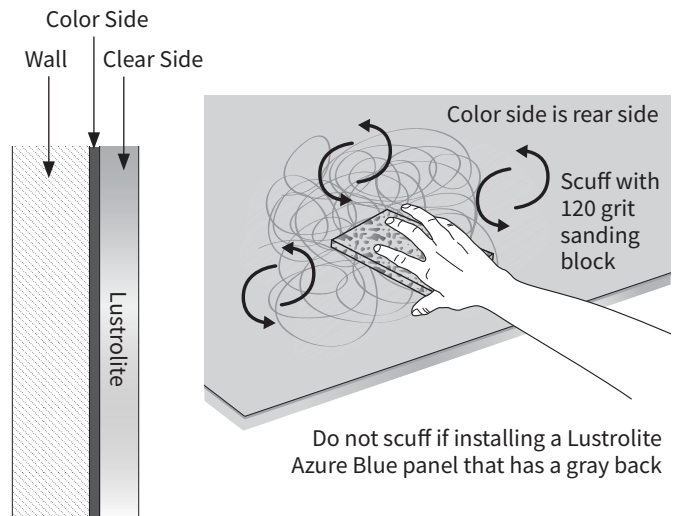

Figure 16:
- Color side is the back side and is installed against the wall or substrate (Figure 16)